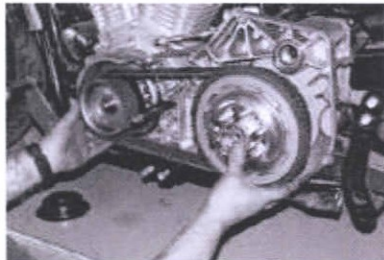

Fig. 6 Install both pulleys and belt at the same time.
6. If front pulley shimming was necessary be sure that the shims are in place, now install rear pulley, belt and front pulley at the same time. (Fig. 6)